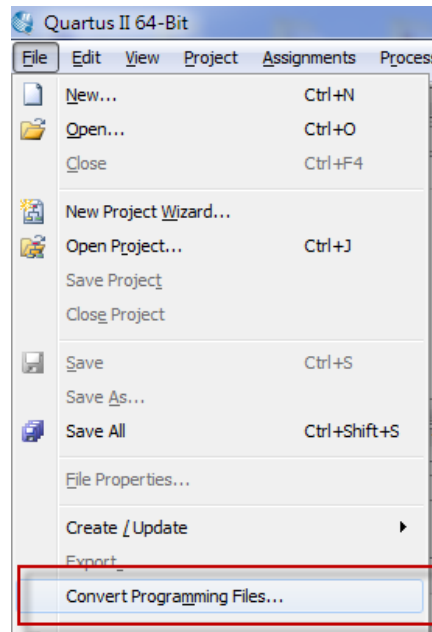

Figure 7-1. File menu of Quartus
6. Highlight the SOF data in the Input files to convert section. See **Figure 7-1**.